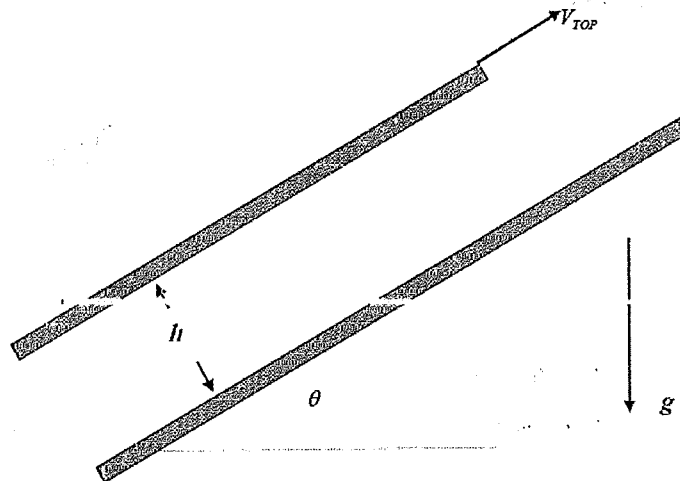

Figure 5
- [b] Consider the combined gravity-Couette drives flow between two parallel plates as depicted below (Figure 5). The lower plate is stationary, while the upper plate moves at constant upward velocity, V_{TOP} . The plates are very long and wide and are separated by a small gap (distance = h). The fluid has viscosity μ and density ρ .